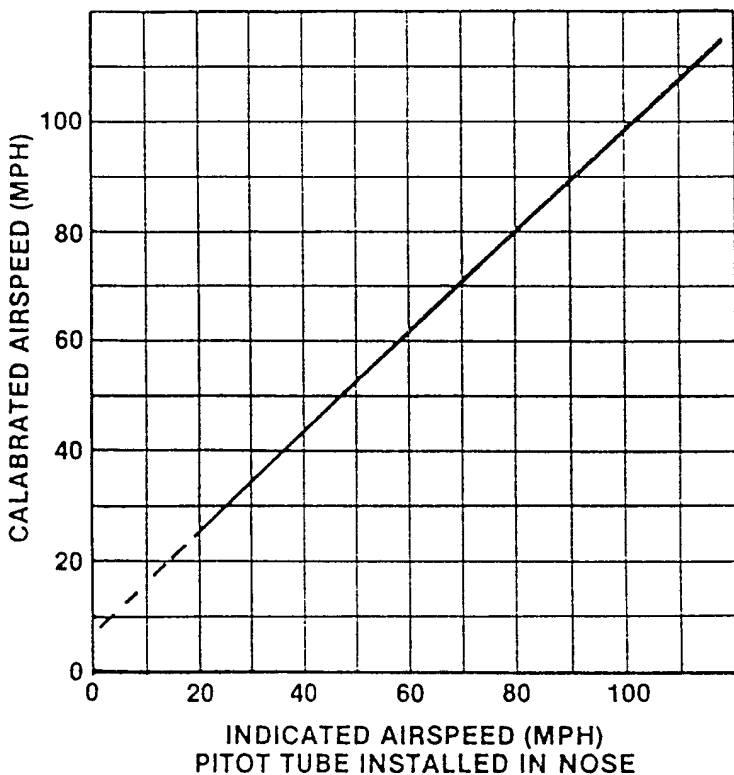

Figure 10-8-2. Airspeed System – Calibration Curve
2. Figure 10-8-2: Airspeed Calibration